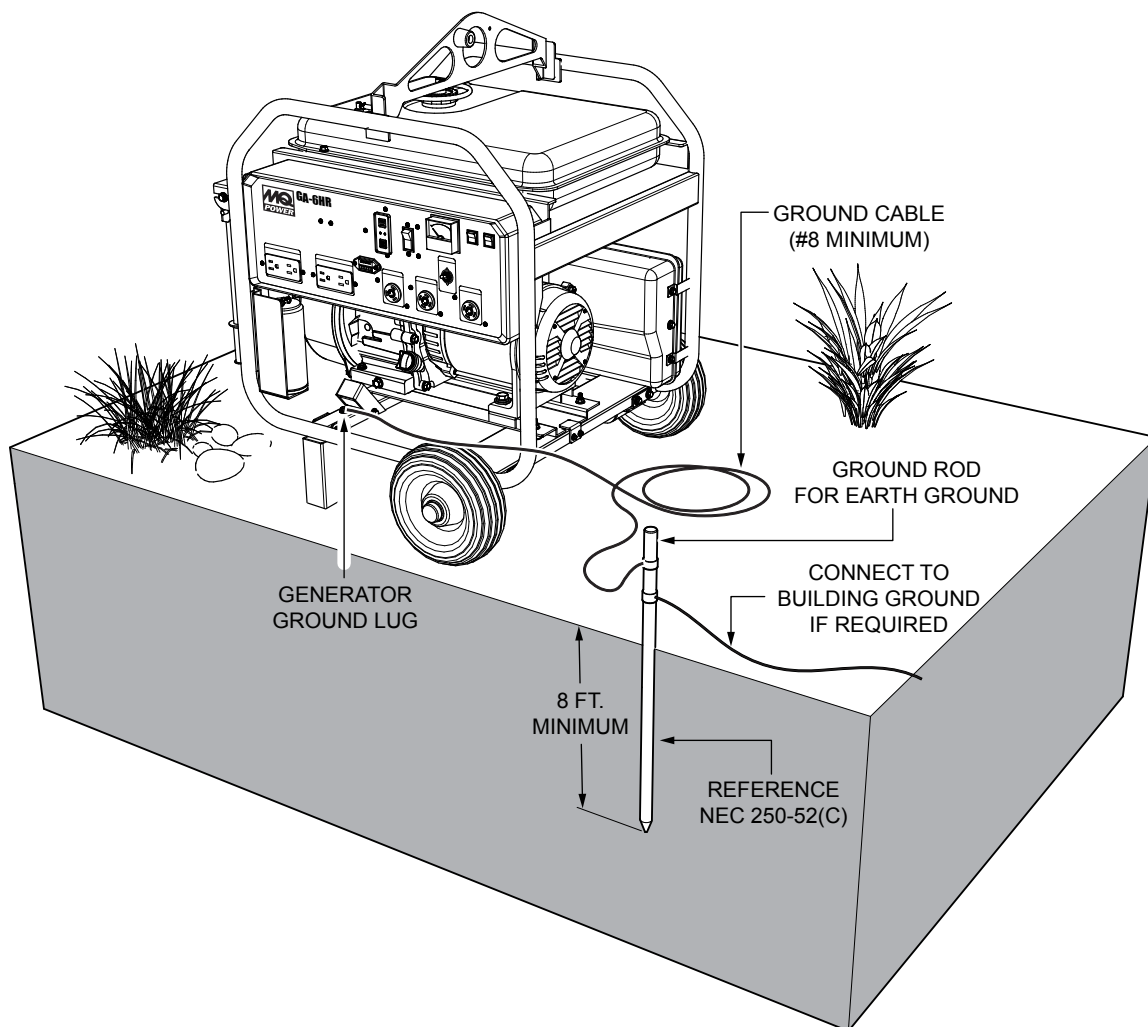

Figure 3. Generator Grounding
At the generator, connect the terminal of the ground cable between the lock washer and the nut (Figure 3) and tighten the nut fully. Connect the other end of the ground cable to a suitable earth ground (ground rod).
2. When grounding the generator (Figure 3) connect the ground cable between the lock washer and the nut on the generator and tighten the nut fully. Connect the other end of the ground cable to earth ground.